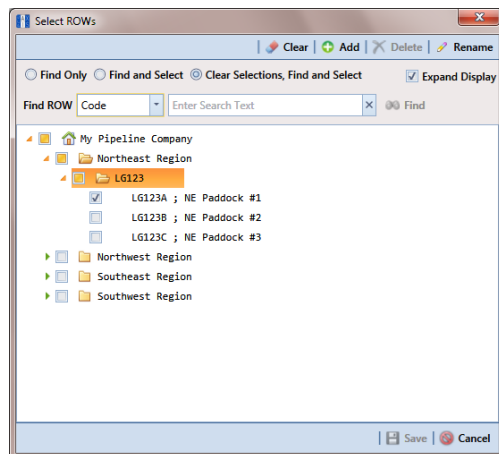

Figure 3-44. Select ROWs
- 1 Click the **Select ROWs** button  to open the *Select ROWs* window (Figure 3-44). Select one or more pipeline segments with facilities you want to work with, then click  **Save** to close the window.